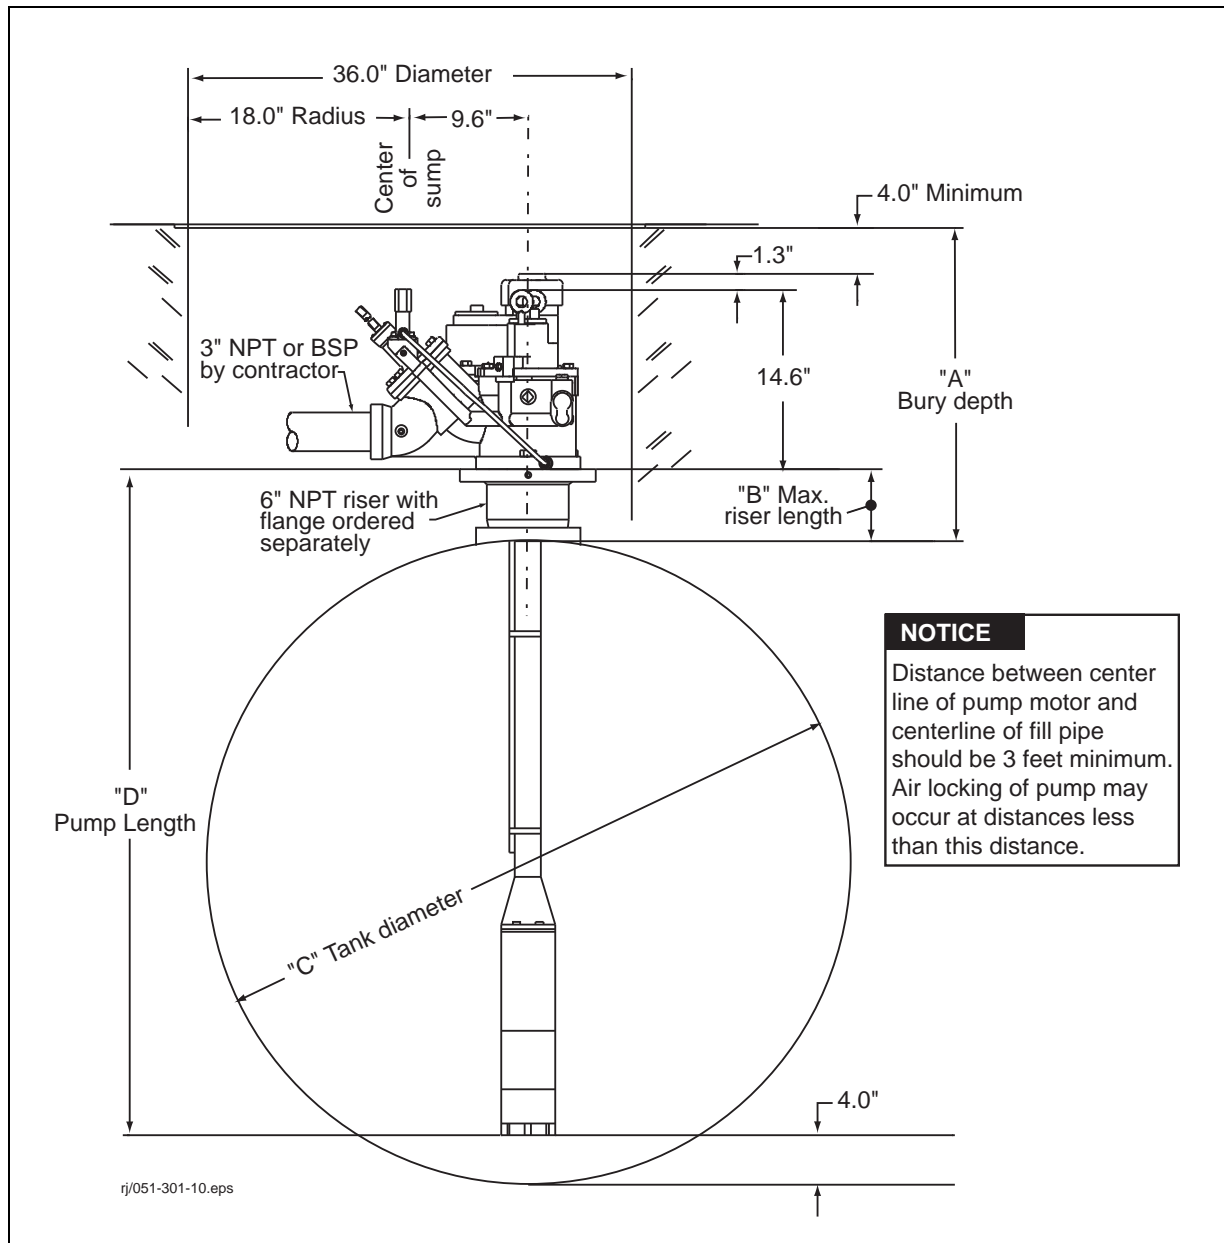

Figure 5. Installation Dimensions
3. Check the equipment which was received against Table 2 and Figure 5 for the tank diameter and bury depth.
4. After the above checks have been made, the backfill can be completed and the manholes installed as shown in Figure 5 and Table 2.